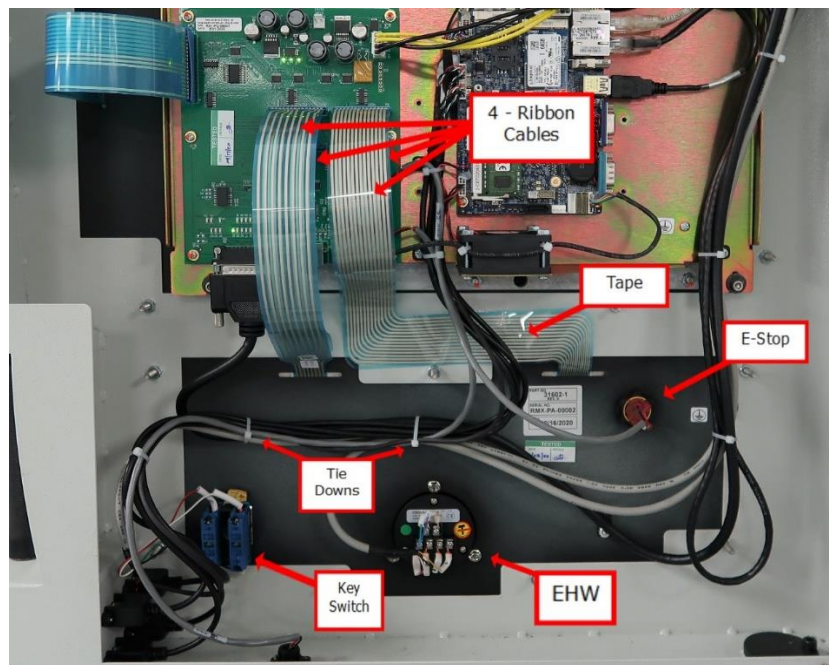

Figure 6.1.5.2
5. Disconnect the tape, tie downs, cables to the E-Stop switch, EHW, and key switch as shown in figure 6.1.5.2.
6. Support the run panel from the front and remove the seven bolts circled as shown in figure 6.1.5.2.